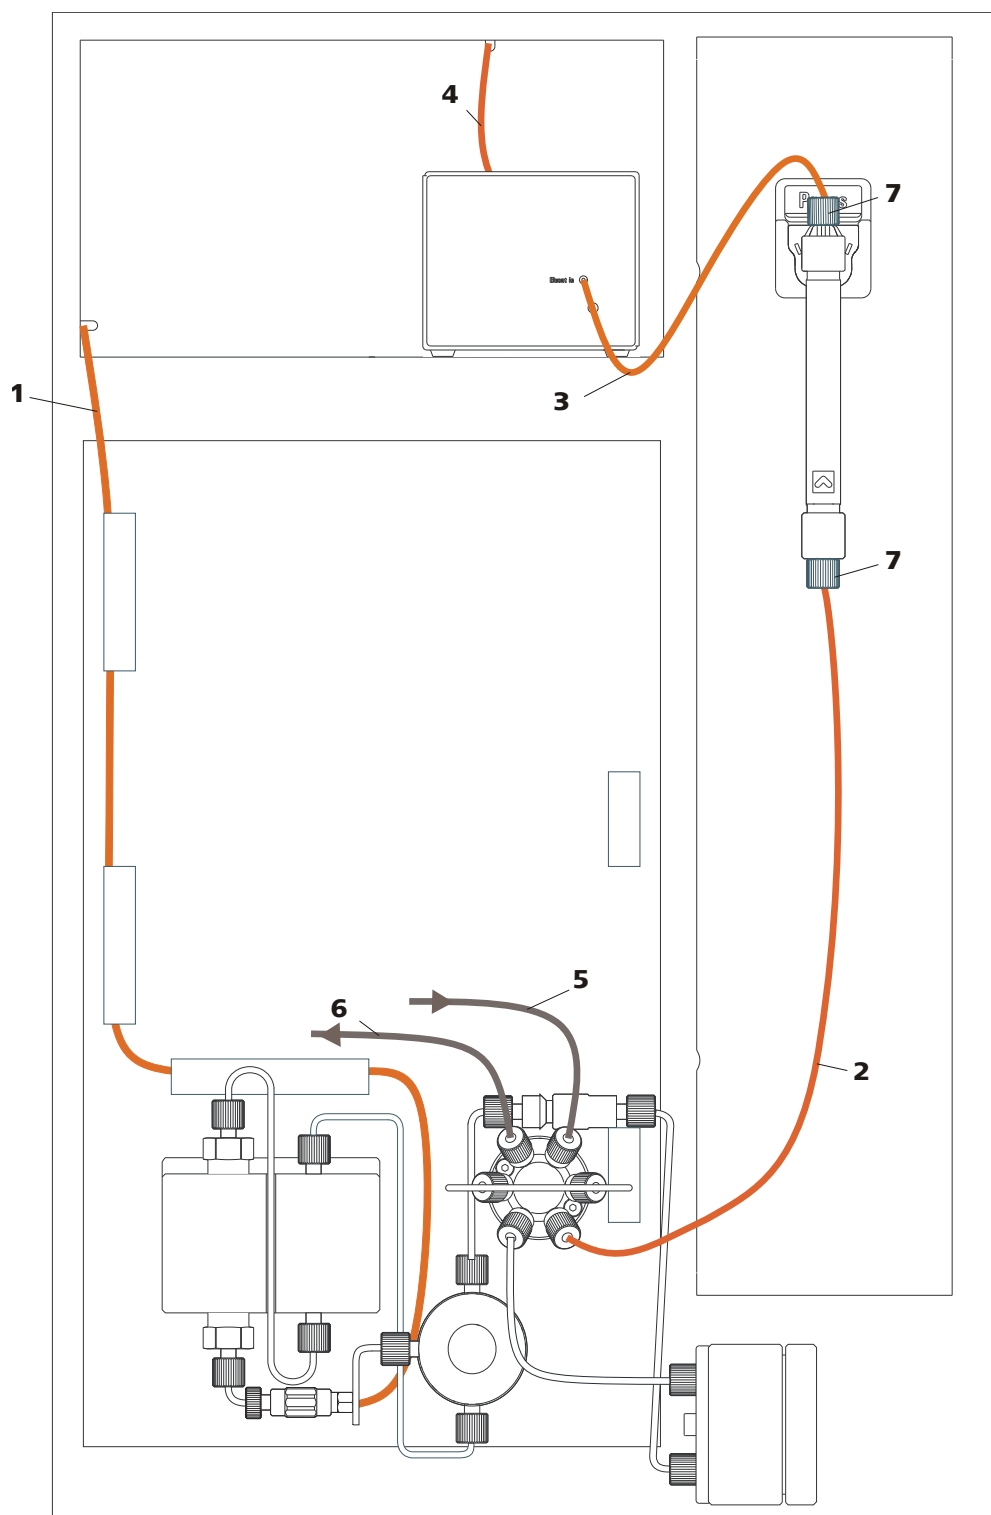

Figure 3 Installation diagram
- an installation diagram (*see Figure 3, page 12*), showing a completely installed 882 Compact IC plus – Cation.